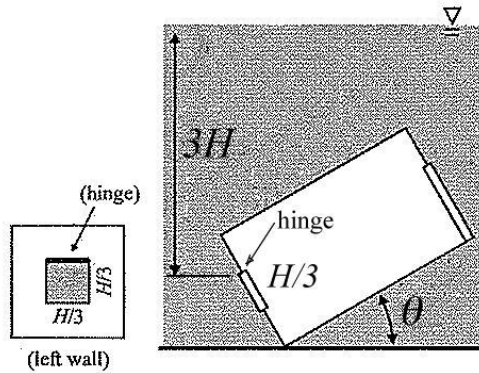

Figure P2.56
2.56 ¹ Your first foray into ice fishing takes a bad turn when a sudden overnight thaw sends your shack to the bottom of the lake with you sleeping inside, as shown in Figure P2.56. Luckily your shack is completely watertight and maintains atmospheric pressure inside. It settles on the bottom at an angle θ . On one wall of the shack (the one pointing down in the figure), there is a square window measuring $H/3$ on a side that is hinged on the top and swings outward. The top of the window is $3H$ below the surface.